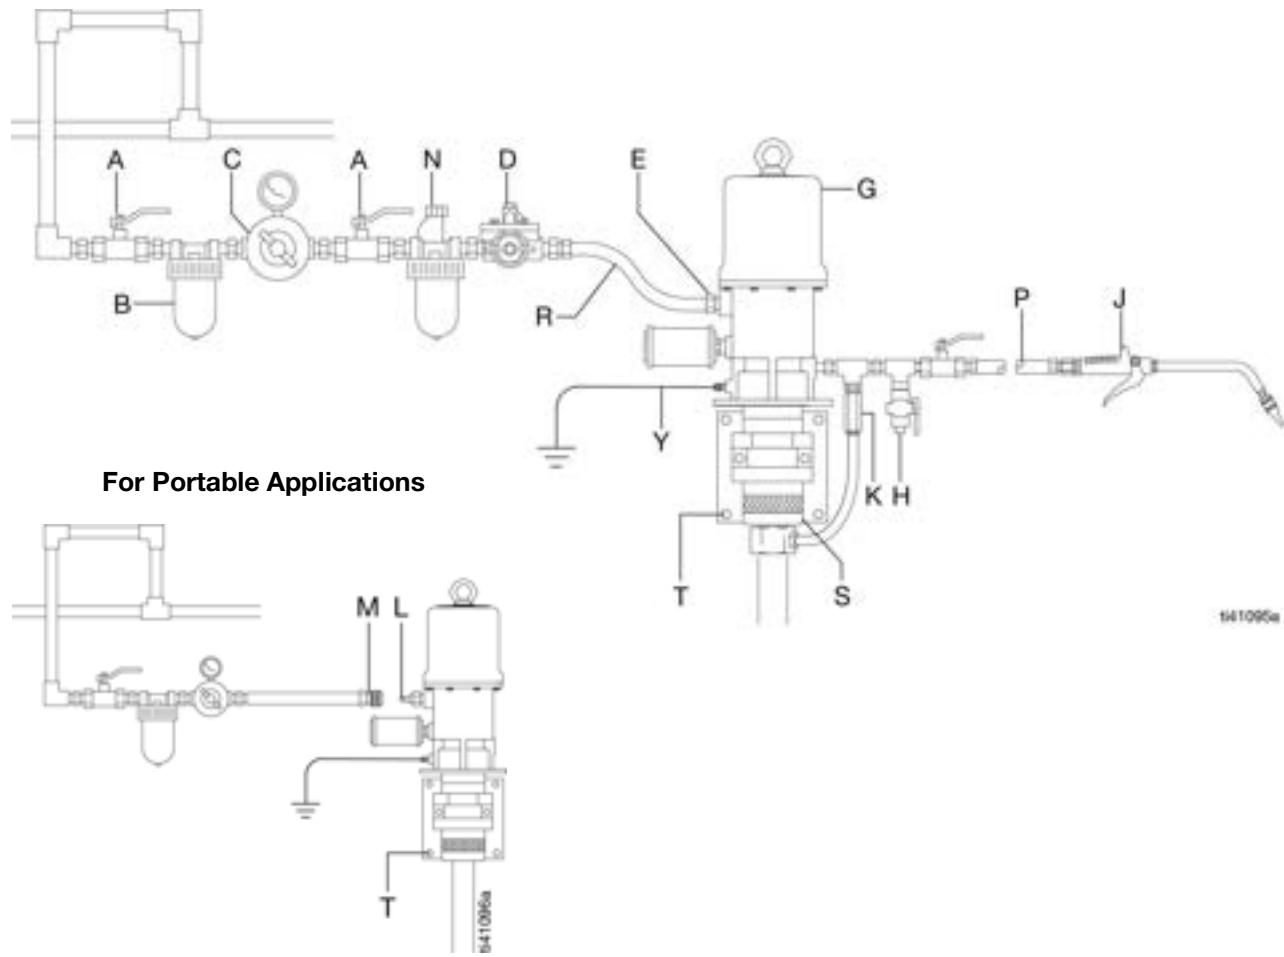

FIG. 1: Typical Installation
The typical installation shown in FIG. 1 is only a guide for selection and installation of a pump. It is not an actual system design. Contact your Graco representative or Graco distributor for assistance in the design of a suitable system.
Install the accessories shown in FIG. 1.
- Install an air line lubricator (N) for automatic air motor lubrication.
- Install bleed-type master air valves (A) to relieve air trapped between it and the motor when the valve is closed, and to isolate the accessories for servicing. See FIG. 1. To order a 1/2 npt, 300 psi (2.1 MPa, 21 bar) maximum working pressure bleed-type master air valve, order Part No. 107142.
As an alternative to a bleed-type master air valve, installation of an air line female quick-disconnect coupler (M) and a male quick-disconnect pin fitting (L) (see FIG. 1) can serve as an air-bleed device.
- Install an air regulator (C) to control the pump speed and pressure.
- Install an air line filter (B) to remove harmful dirt and contaminants from the compressed air supply.
- Install a drain valve (H) near the pump fluid outlet to relieve fluid pressure in the hoses and gun when opened. To order a fluid drain valve, order Part No. 210658.
- Install a suitable fluid hose (P) and dispensing valve (J).
- Install a pump runaway valve (D) to shut off the air to the pump if the pump accelerates beyond the pre-adjusted setting, which can be caused by a depleted fluid supply. A pump that runs too fast can be seriously damaged. To order a 3/4 npt(f) inlet and outlet pump runaway valve, order Part No. 215362.
- Install a thermal relief kit (K) to relieve pressure in the fluid line caused by heat expansion. To order a 600 psi (4.1 MPa, 41 bar) minimum relief pressure, 630 psi (4.4 MPa, 44 bar) maximum relief pressure thermal relief kit, order Part No. 237601.